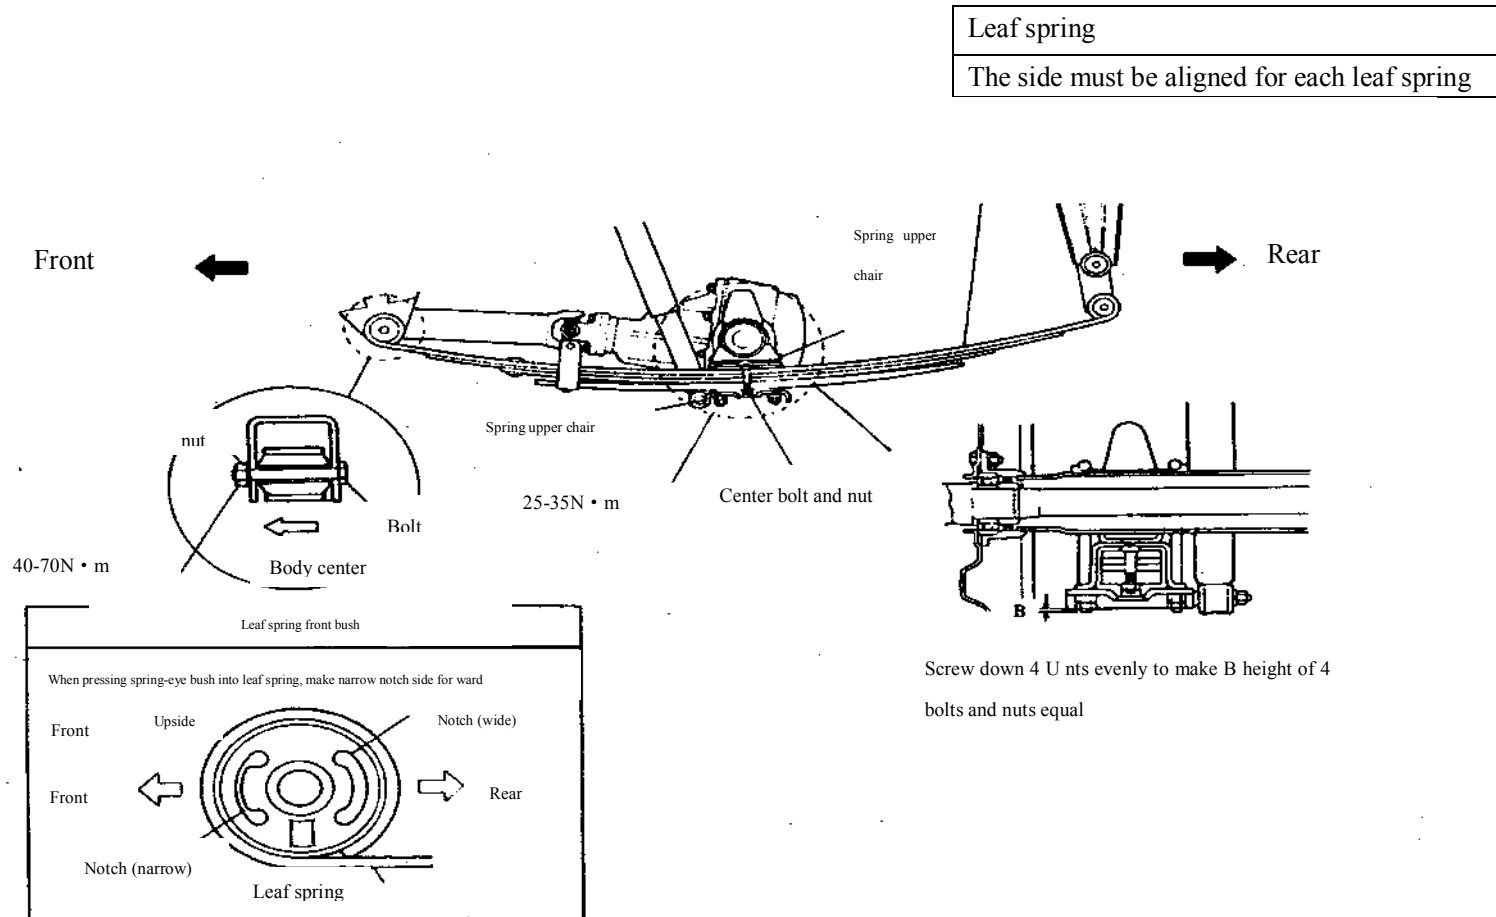

Fig. 3.5-10
2. Leaf spring (Refer to Fig.3.5-10)